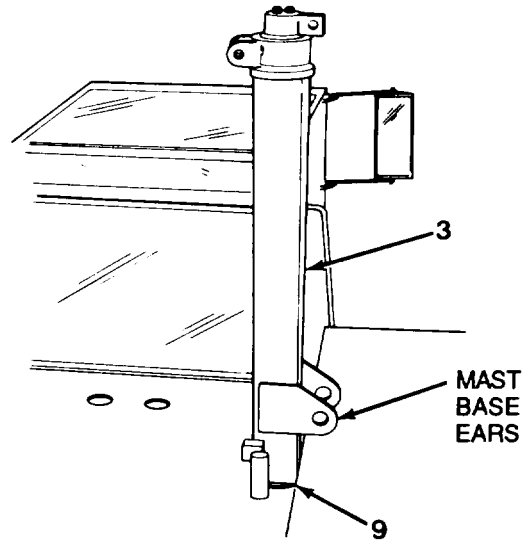

Figure 5-10. *Assembling the Mast*
12. Install mast (3) on carrier as follows:
- a. With the aid of another person, raise mast (3) from deck, and lower it over square pivot bearing (9, Figure 5-10), located on right side of frame, behind operator's cab. Position stop on mast (3) towards center line of vehicle between stops. Mast base ears should be over fender. Align ears on top of mast with support ears on frame.